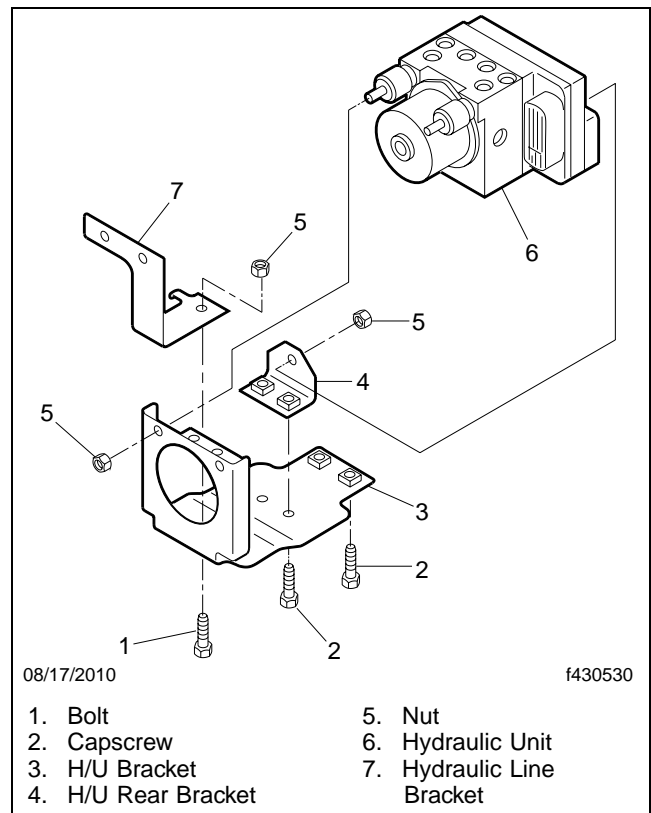

Fig. 7, Hydraulic Unit Installation
8.5 Remove the brake line mounting bracket. See **Fig. 7**.